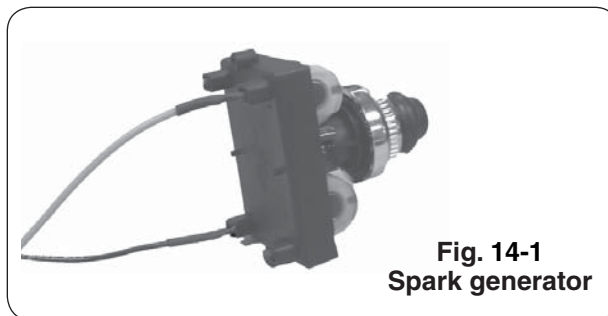

Fig. 14-1
- c. Carefully pull the left end of the backburner forward until the burner can be moved to the left pulling it free from the orifice located on the right side (see Fig. 14-1).
Note: Carefully, lift the face away from the frame. The spark generator for the ignition system is attached to the inside of the face panel. The spark generator knob need not be detached, but the wires must be unplugged from the generator before the face is completely removed (see Fig. 14-1).